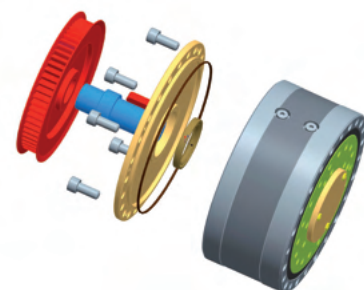

Fig. 5.1.1: Most frequent connections
- Description of T model installations on Fig. 5.1.1 a, b, c, d:
Fig. 5.1.1 (a, b, c, d) shows examples of possible high precision reduction gear installations, their connections and sealing methods. In case of direct connections (case a) of the reduction gear with motor shaft, tolerances must be observed to avoid uncontrolled bending pressure and overload of the motor shaft. The tolerance values are given in Tab. 5.1.5.